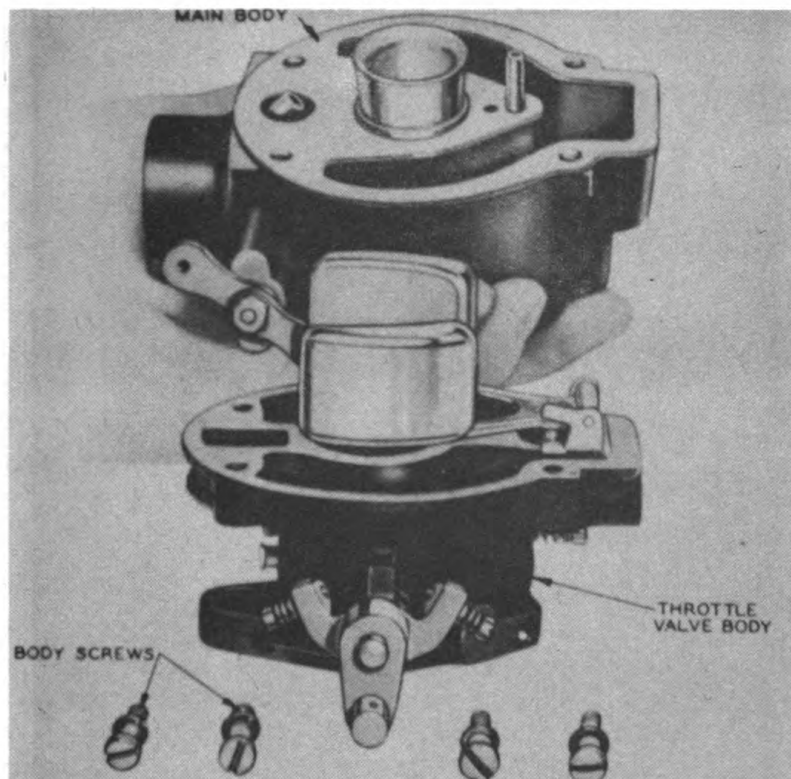

Fig. 91
2. Remove four body screws and separate throttle valve body assembly from main body. (Fig. 91).